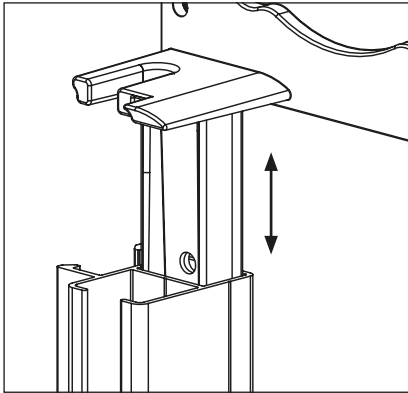

Fig. 19: Pin guide mounting
- On the up side the guides moves over the pin of the consoles. (see fig. 19)